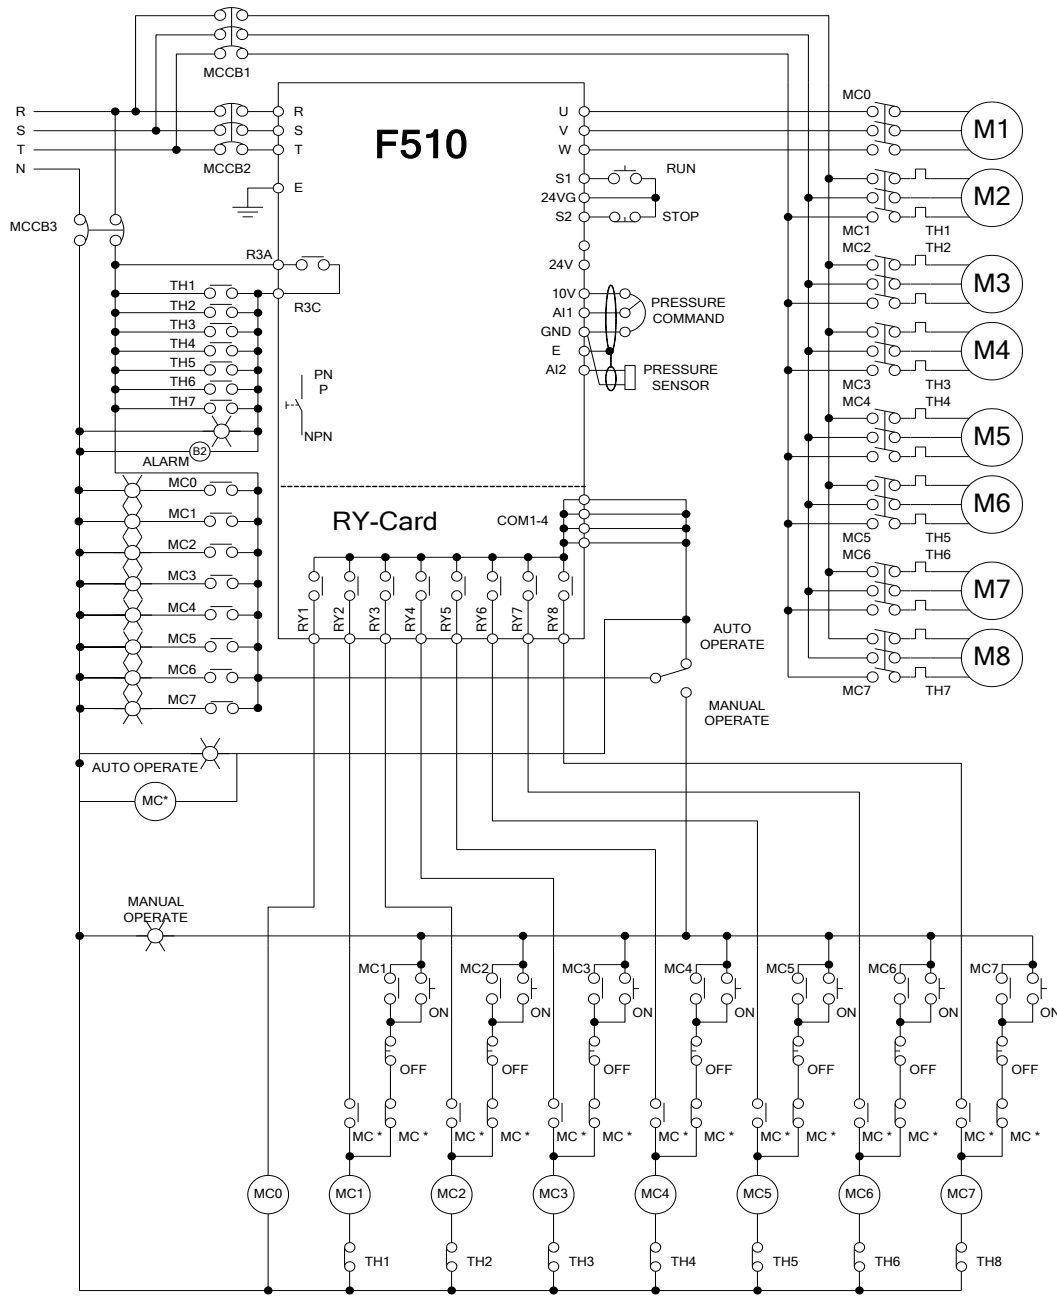

Figure 4.3.126 Fixed mode inverter pump wiring using 1 to 8 option card
In this mode, the inverter directly controls one pump; the other pumps are switched across the line and controlled by the inverter's 1 to 8 relay option card. Pumps 2 – 8 (Lag Pumps) are added when demand is required. See Fig 4.3.126 for the wiring diagram.
- The following examples are the timing chart for switching ON/OFF relays in fixed mode. Set 24-00=1, 24-06=0, enable the PID function and Relay1 to Relay 4 on the 1 to 8 relay card. Motor 1 is connected to inverter and motor 2~4 are connected to AC power supply. MC of AC power supply is controlled by the external circuit control. Wiring diagram refer to Fig. 4.3.126.